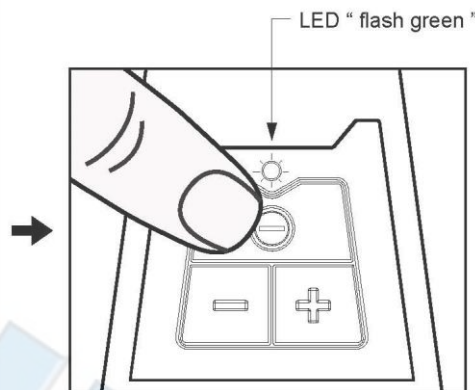

figure 2
2. Press the power on/off button "  $\ominus$  " on the button plate to switch on the sander. The LED indicator shows " flash green " color after sander being switched on. - see figure 2.